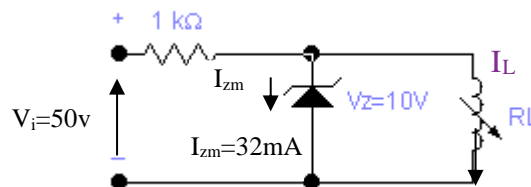

Fig. 3.6
- A) For the network of Fig. 3.6 determine the range of R_L and I_L that will result in V_{RL} being maintained at 10V.